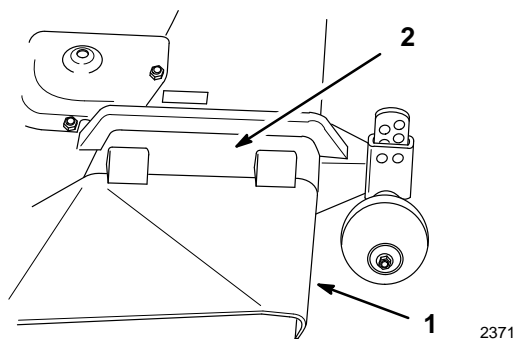

Figure 5
1. Remove backing paper and apply decal to discharge side of mower (Fig. 5). Smooth from center to edges to remove air bubbles.